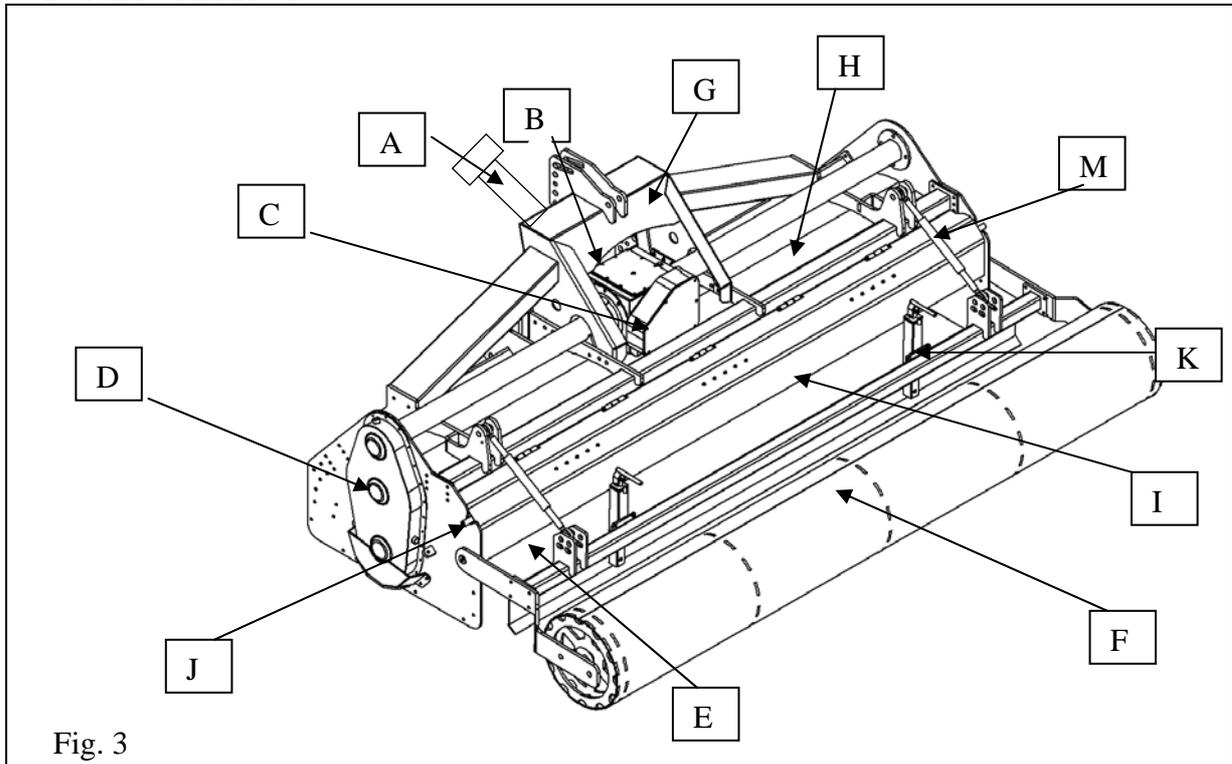

Fig. 3
-Fit the clutch plate (C) on the 6 exposed bolts and secure with the 6 springs, washers and nuts (See Fig. 3). Tighten the 6 nuts fully to ensure correct seating of the clutch components. Then slacken nuts and locknuts until the springs can easily turn by hand, then adjust the clutch following instructions on page 18.
-Refit the guard (A)